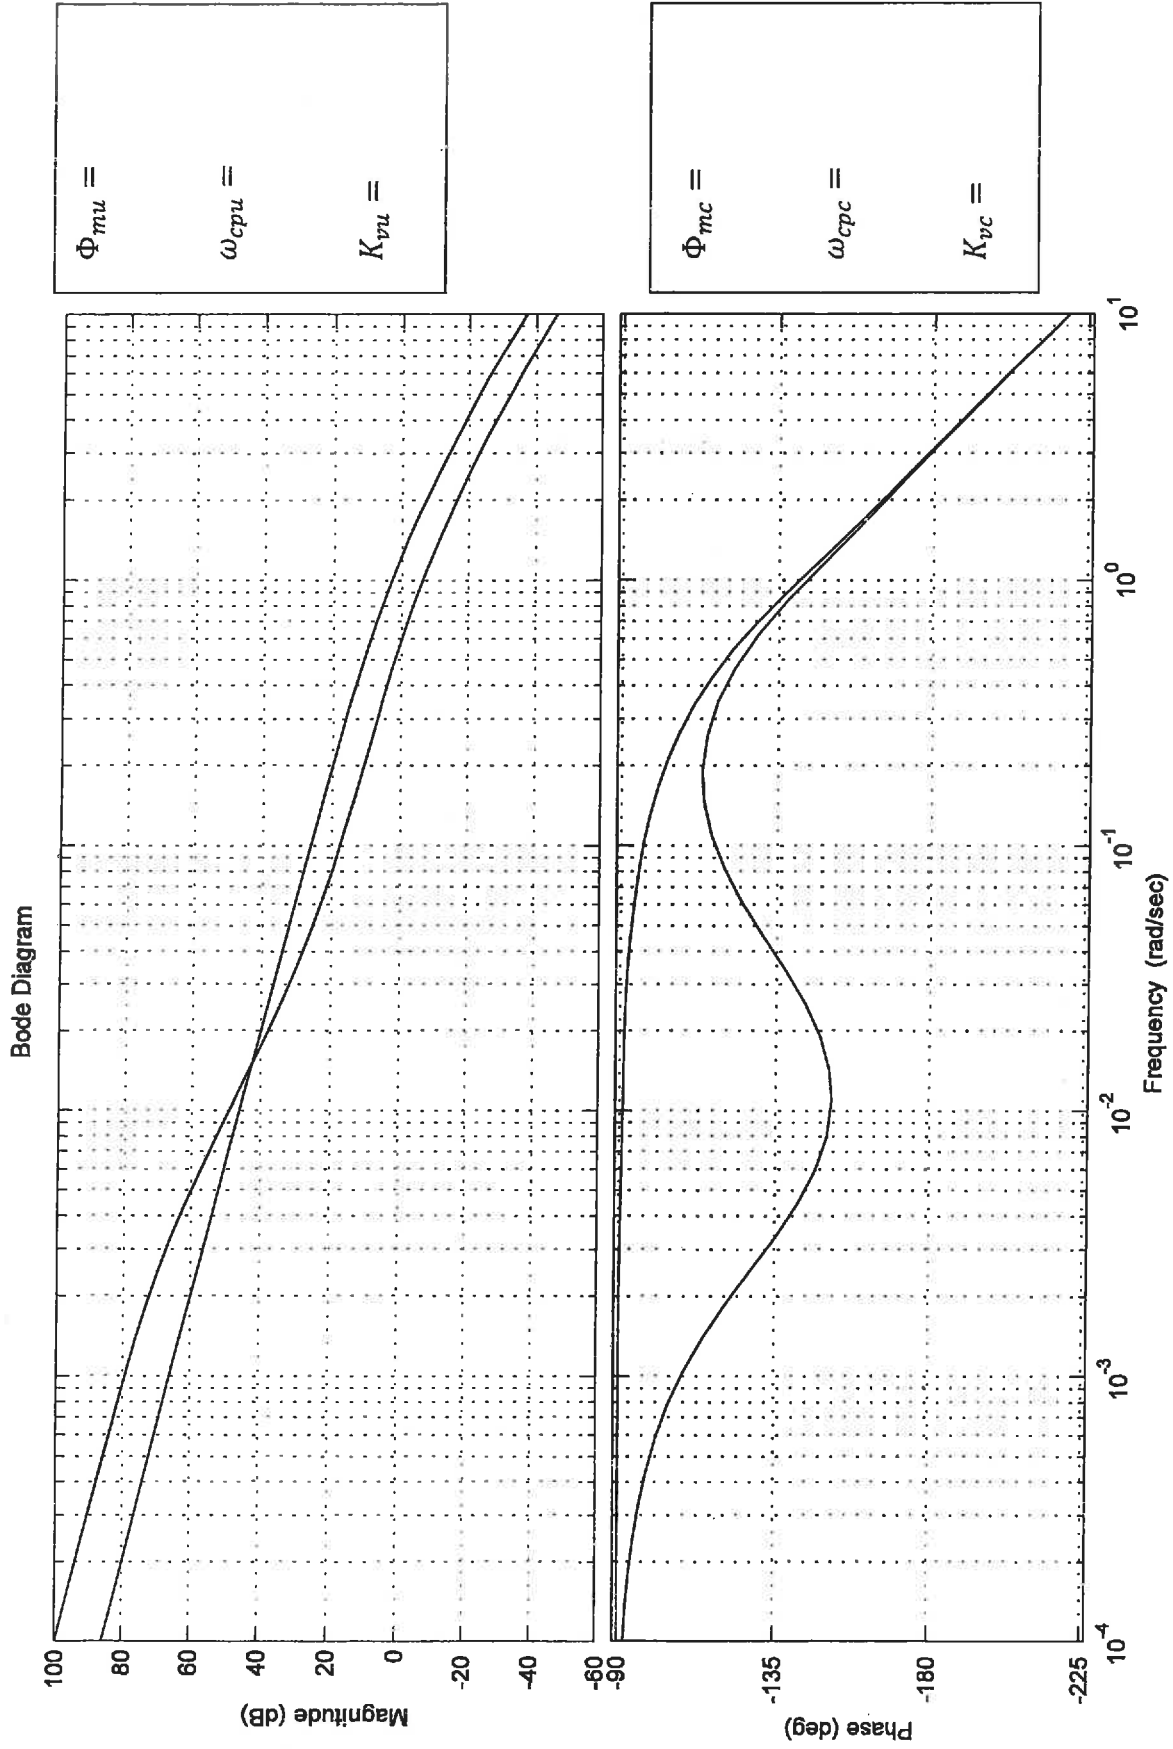

Figure Q6.1: Open Loop Frequency Response Plots of Uncompensated and Compensated Systems
You were in charge of a Controller design for a certain closed loop unit feedback control where the process transfer function was not known, but its open loop frequency response was successfully measured. Compensated system requirements were: Steady State Error to ramp input,  $e_{ss(\text{ramp})} = 0.1 \text{ V/V}$  and Percent Overshoot,  $\text{PO} < 20\%$ . Frequency responses of both the compensated and the uncompensated system are shown in Figure Q6.1.
1. Use the plots in Figure Q6.1 to refresh your memory of the design, and remind us whether you used the Lead or the Lag Controller configuration by placing a check mark below:
2. Next, use the plots in Figure Q6.1 to read off the values of uncompensated Phase Margin ( $\Phi_{mu}$ ), uncompensated frequency of the crossover, ( $\omega_{cpu}$ ), uncompensated Velocity Error Constant ( $K_{vu}$ ), and based on these, calculate these estimates for the **uncompensated** system:  $e_{ss(\text{ramp})}$ ,  $PO$ , and  $T_{\text{settle}(\pm 2\%)}$ .
3. Finally, use the plots in Figure Q6.1 to read off the values of compensated Phase Margin ( $\Phi_{mu}$ ), compensated frequency of the crossover, ( $\omega_{cpu}$ ), compensated Velocity Error Constant ( $K_{vu}$ ), and based on these, calculate these estimates for the **compensated** system:  $e_{ss(\text{ramp})}$ ,  $PO$ , and  $T_{\text{settle}(\pm 2\%)}$ .